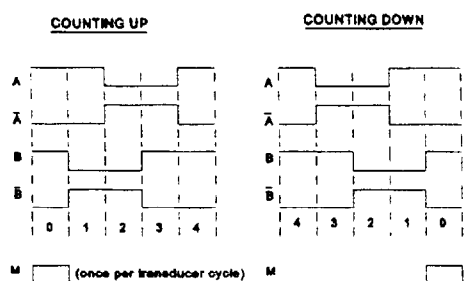

Figure 1. Quadrature Output Format
**3.2.1 Quadrature (A and  $\bar{A}$ , B and  $\bar{B}$ ).** This is the default setting, with no connection made to the "CONTROL" inputs. A count is considered to occur whenever there is a transition in either the A or B output signal. The phase relationship of the two signals indicates the direction of motion as shown in Figure 1.